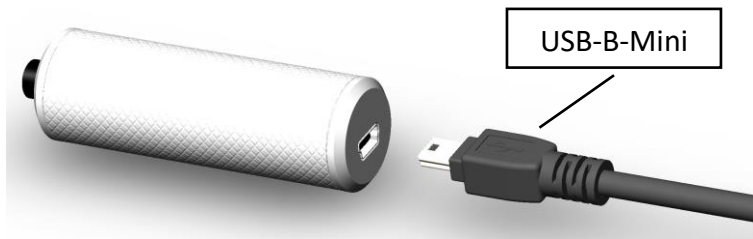

Figure 18. Connection of the LoniButton
1. Connect the short USB cable according to Figure 18